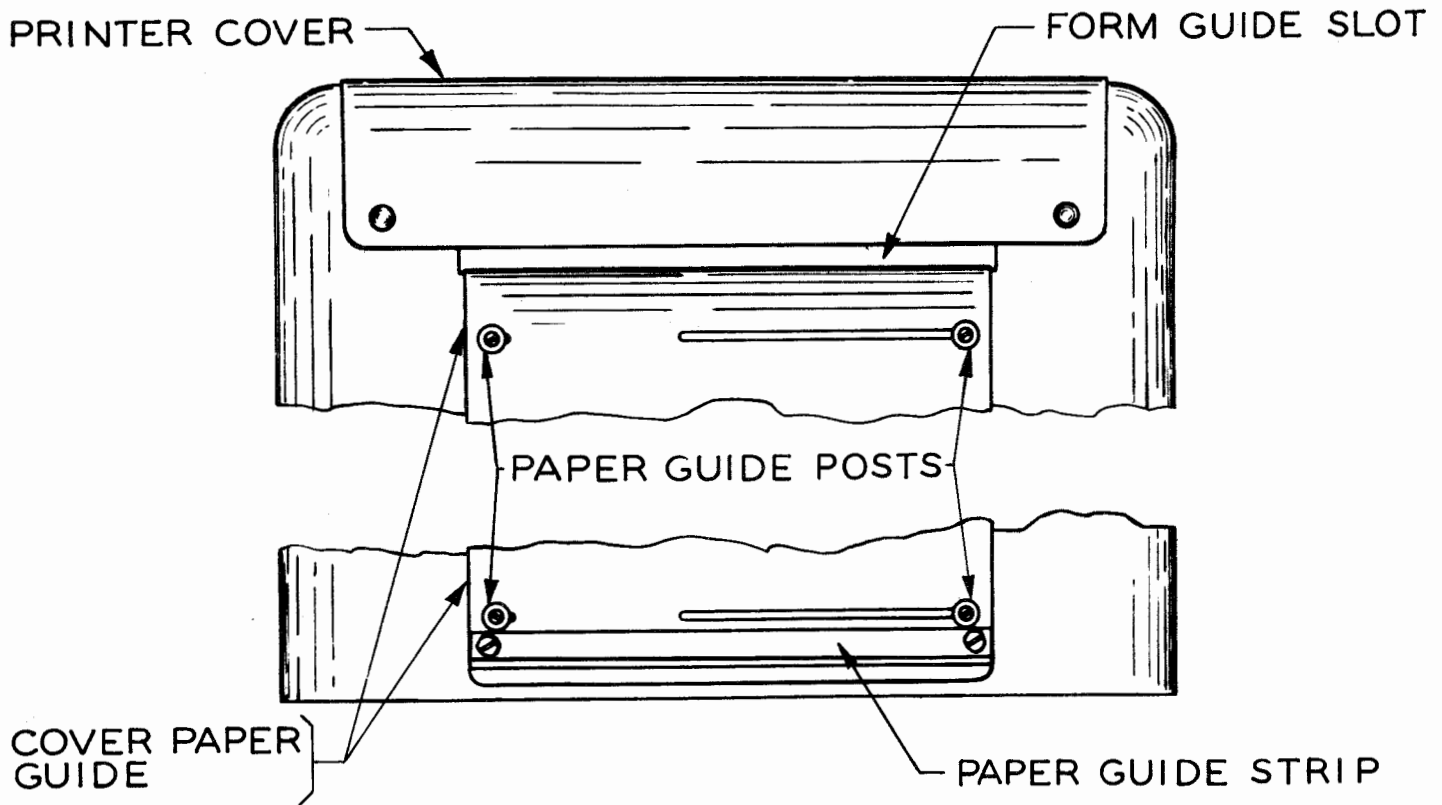

Figure 5
2.12 Cover paper guide posts should just clear the edges of the forms when the sprocket pins are in the proper holes of the forms so as to hold the paper straight, and the slack in the forms is taken up by grasping them just below the paper guide. See Figure 5.